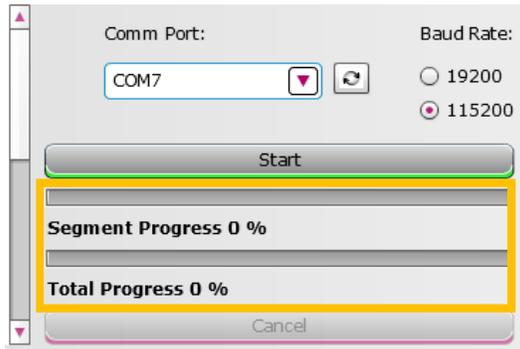

Figure 1.10
- ✓ The 'Segment' progress bar displays the current segment of the firmware file being sent to the panel. (see figure 1.10)
- ✓ The 'Total' progress bar displays the total download percentage. (see Figure 1.10)